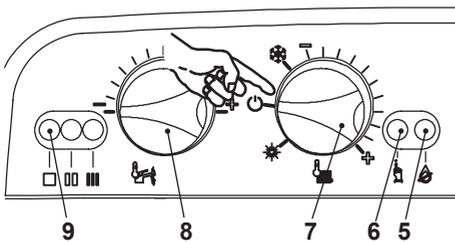

Fig. 8.5
- Turn the boiler OFF positioning the function selector 7 as indicated in Fig. 8.5.